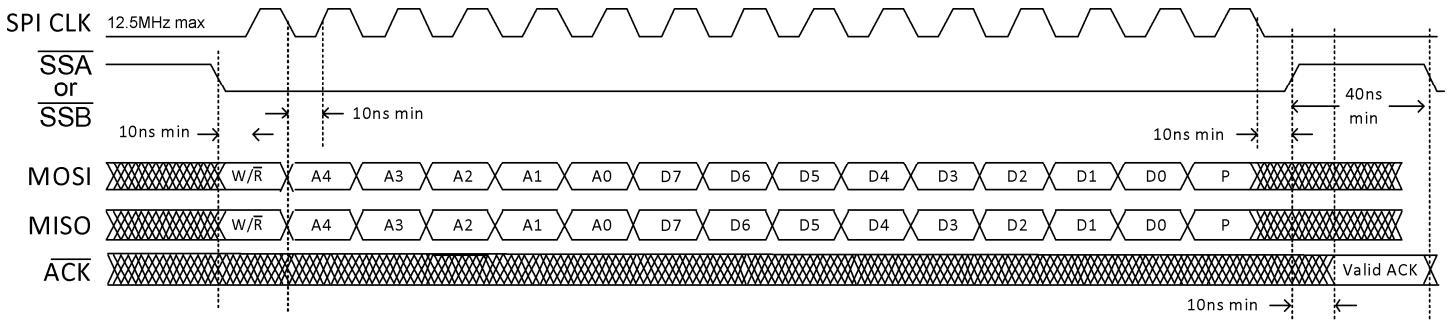
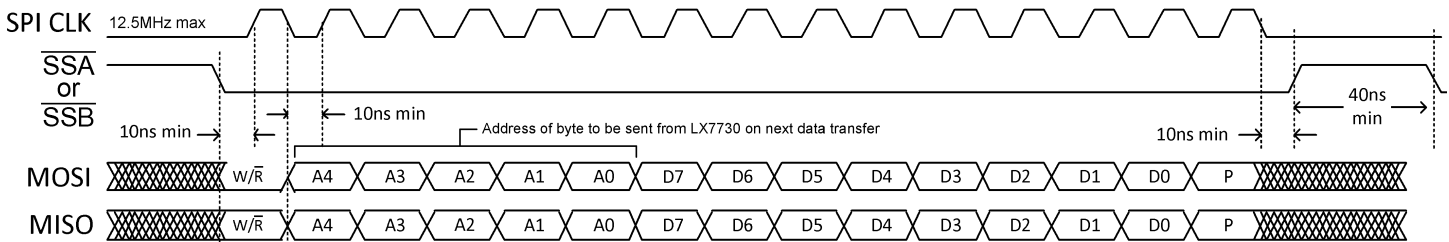
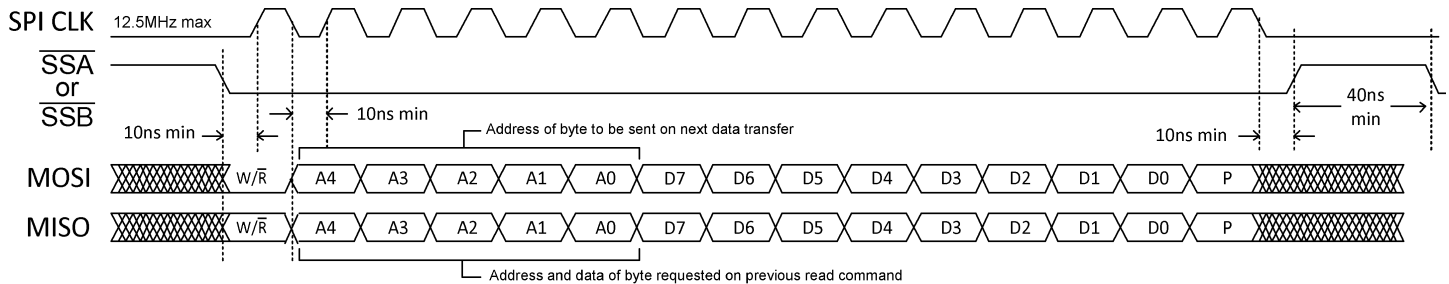

Figure 14. Serial Data Write Timing Diagram
Figure 15. Serial Data Read Timing Diagram
Figure 16. Serial Data Read Timing Diagram
Serial interface A is selected by setting the inputs SPI_A = 0 and SPI_B = 1 (Table 14 below). Serial interface B is selected by setting the inputs SPI_A = 1 and SPI_B = 0 (Table 14 on page 31). The serial interface packs a R/W bit, the 5 register address bits A4 to A0, the 8 data bits D7 to D0, and a parity bit P into a 15-bit word in that order. The parity bit provides mandatory data validation for every write. The LX7730 performs an even parity check on this 15-bit word. Parity is correct if there are an even number of 1s in the word. Figure 14 shows the serial write timing diagram.
Figure 15 and Figure 16 show the serial read timing. Use an 80ns minimum CLKA and CLKB period (12.5MHz), with 32ns minimum high time and 10ns minimum low time. Setup/hold time on MOSI is 10ns/0ns before/after the rising edge of CLKx reaches logic 1. Data is valid on MISO 10ns after the falling edge of CLKx reaches logic 0, and should be sampled on the subsequent rising edge of CLKx.
3. Execute the read or write sequence per Figure 14, Figure 15, and Figure 16